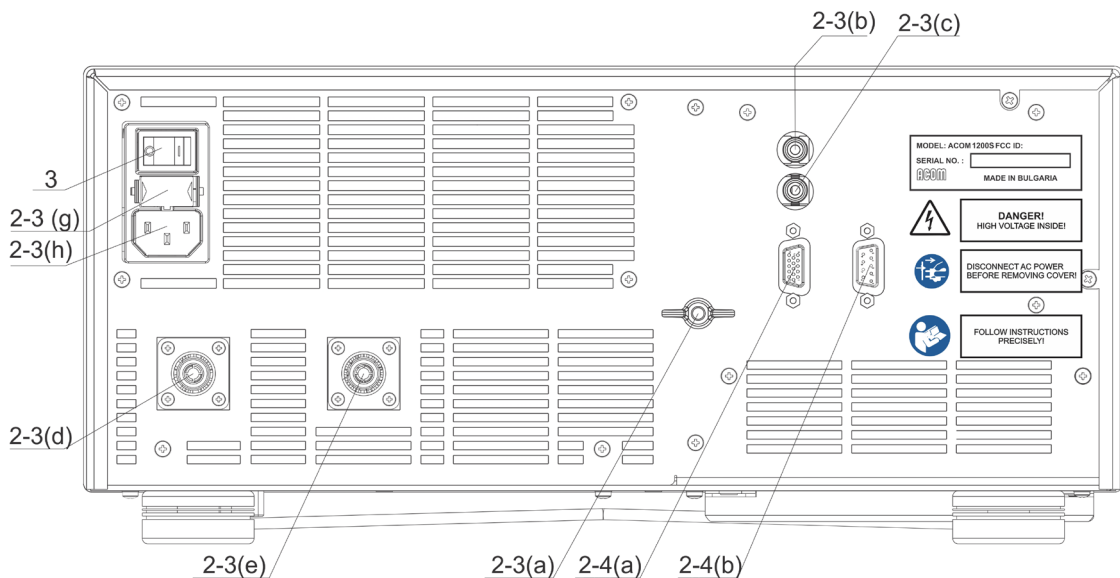

Fig. 2-1 Rear panel connections
The ACOM 1200S linear amplifier is a Class I apparatus regarding protection against electric shock, i.e. the third grounding lead of its mains cord (colored yellow with two green stripes) and the grounding stud on the rear panel, marked GND (Fig. 2-1), must be connected to the grounding system of the shack for safe operation.
- a) GND stud - First connect the grounding stud of the amplifier (located on the rear panel and marked GND – Fig. 2-1) to the grounding system of the shack.
Run a shielded cable from the output of your transceiver, providing “ground on transmit”, to the KEY-IN input on the amplifier rear panel (RCA PHONO jack – Fig. 2-1). Use a standard RCA PHONO plug for connection to the amplifier.